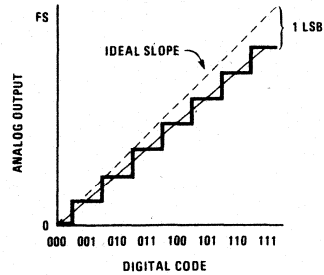
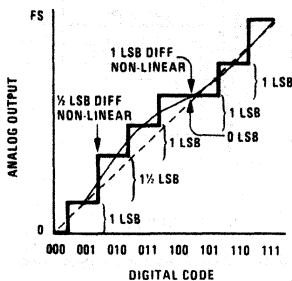
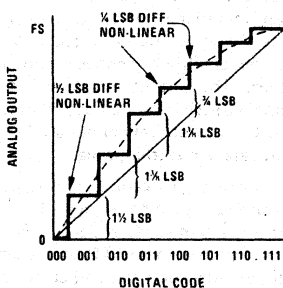
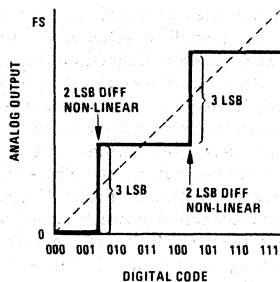

FIGURE 4. Linear, 1 LSB Scale Error
FIGURE 6.  $\pm\frac{1}{2}$  LSB Non-Linearity (Implies 1 LSB Possible Error), 1 LSB Differential Non-Linearity (Implies Monotonicity)
FIGURE 7.  $\frac{1}{4}$  LSB Non-Linear,  $\frac{1}{2}$  LSB Differential Non-Linearity
FIGURE 8.  $\pm 1$  LSB Linear,  $\pm 2$  LSB Differential Non-Linear
**Scale Error** (full scale error) is the departure from design output voltage of a DAC for a given input code, usually full-scale code. (See figure 4.) In an ADC it is the departure of actual input voltage from design input voltage for a full-scale output code. Scale errors can be caused by errors in reference voltage, ladder resistor values, or amplifier gain, *et. al.* (See **Temperature Coefficient**.) Scale errors may be corrected by adjusting output amplifier gain or reference voltage. If the transfer curve resembles that of figure 7, a scale adjustment at  $\frac{1}{4}$  scale could improve the overall  $\pm$  accuracy compared to an adjustment at full scale.
Figure 6 shows a 3-bit DAC transfer curve with no more than  $\pm\frac{1}{2}$  LSB non-linearity, yet one step shown is of zero amplitude. This is within the specification, as the maximum deviation from the ideal straight line is  $\pm 1$  LSB ( $\frac{1}{2}$  LSB resolution error plus  $\frac{1}{2}$  LSB non-linearity). With any linearity error, there is a differential non-linearity (see below). A  $\pm\frac{1}{2}$  LSB linearity spec guarantees monotonicity (see below) and  $\leq \pm 1$  LSB differential non-linearity (see below). In the example of figure 6, the code transition from 100 to 101 is the worst possible non-linearity, being the transition from 1 LSB high at code 100 to 1 LSB low at 110. Any fractional non-linearity beyond  $\pm\frac{1}{2}$  LSB will allow for a non-monotonic transfer curve. Figure 7 shows a typical non-linear curve; non-linearity is  $\frac{1}{4}$  LSB yet the curve is smooth and monotonic.
**Differential Non-Linearity** indicates the difference between actual analog voltage change and the ideal (1 LSB) voltage change at any code change of a DAC. For example, a DAC with a 1.5 LSB step at a code change would be said to exhibit  $\frac{1}{2}$  LSB differential non-linearity (see figures 6 and 7). Differential non-linearity may be expressed in fractional bits or in % FS.
Differential linearity specs are just as important as linearity specs because the apparent quality of a converter curve can be significantly affected by differential non-linearity even though the linearity spec is good. Figure 6 shows a curve with a  $\pm\frac{1}{2}$  LSB linearity and  $\pm 1$  LSB differential non-linearity while figure 7 shows a curve with  $+1\%$  LSB linearity and  $\pm\frac{1}{2}$  LSB differential non-linearity. In many user applications, the curve of figure 7 would be preferred over that of figure 6 because the curve is smoother. The differential non-linearity spec describes the smoothness of a curve; therefore it is of great importance to the user. A gross example of differential non-linearity is shown in figure 8 where the linearity spec is  $\pm 1$  LSB and the differential linearity spec is  $\pm 2$  LSB. The effect is to allow a transfer curve with grossly degraded resolution; the normal 8-step curve is reduced to 3 steps in figure 8. Similarly, a 16-step curve (4-bit converter) with only 2 LSB differential non-linearity could be reduced to 6 steps (a 2.6-bit converter?). The real message is, "Beware of the specs." Do not ignore or omit differential linearity characteristics on a converter unless the linearity spec is tight enough to guarantee the desired differential linearity. As this characteristic is impractical to measure on a production basis, it is rarely, if ever, specified, and linearity is the primary specified parameter. Differential non-linearity can always be as much as twice the non-linearity, but no more.